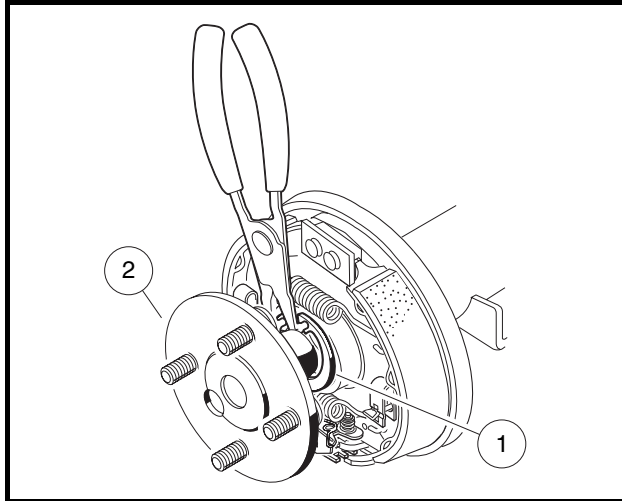
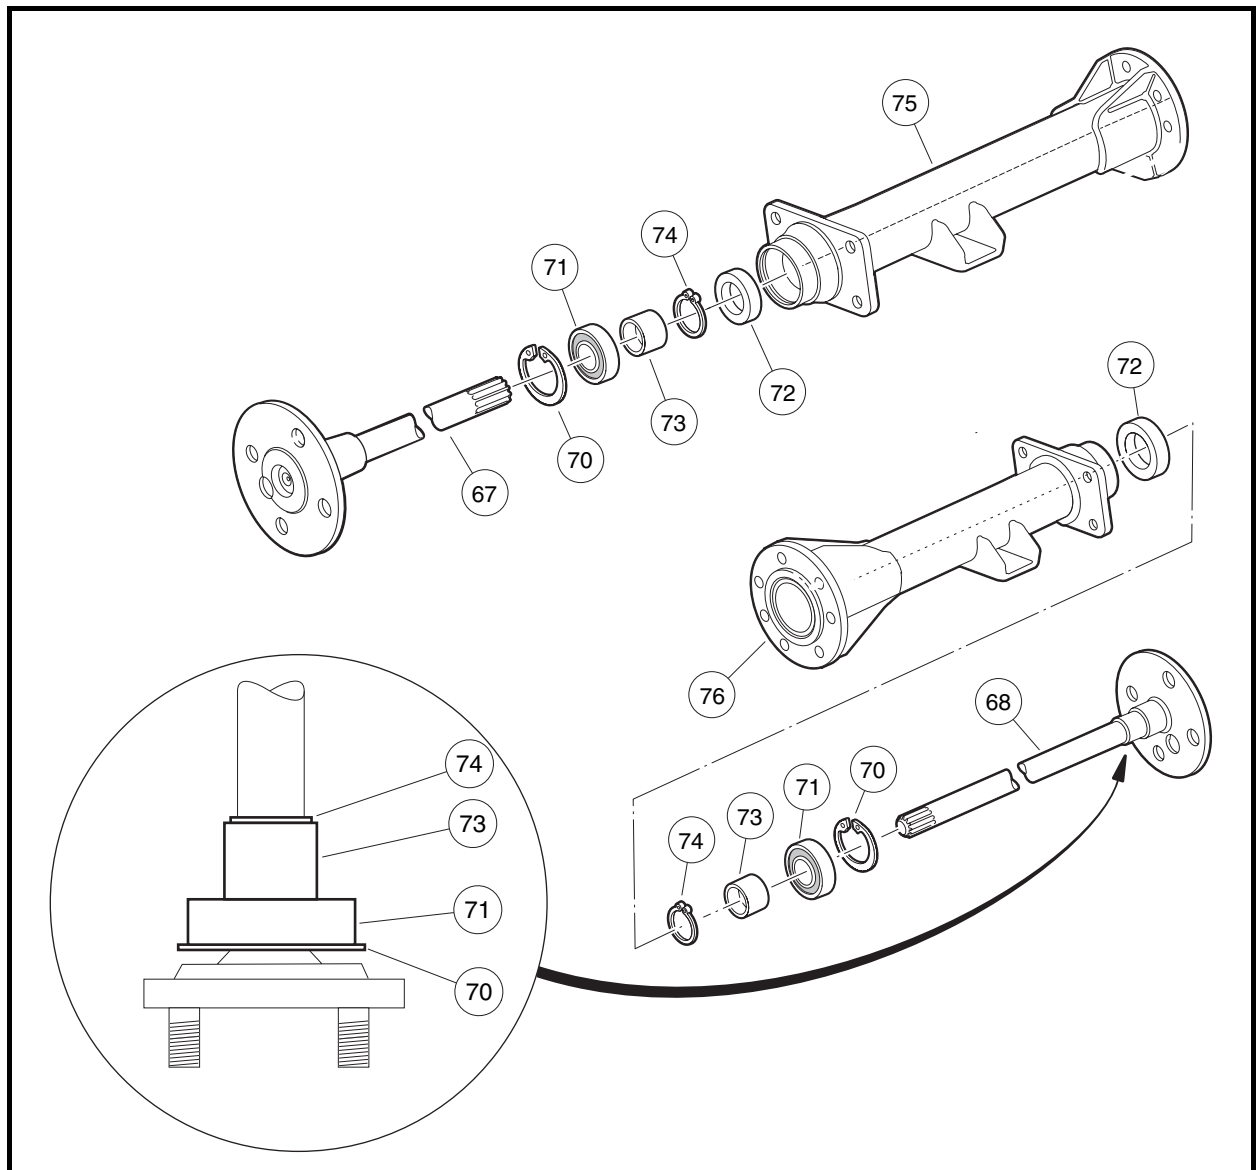
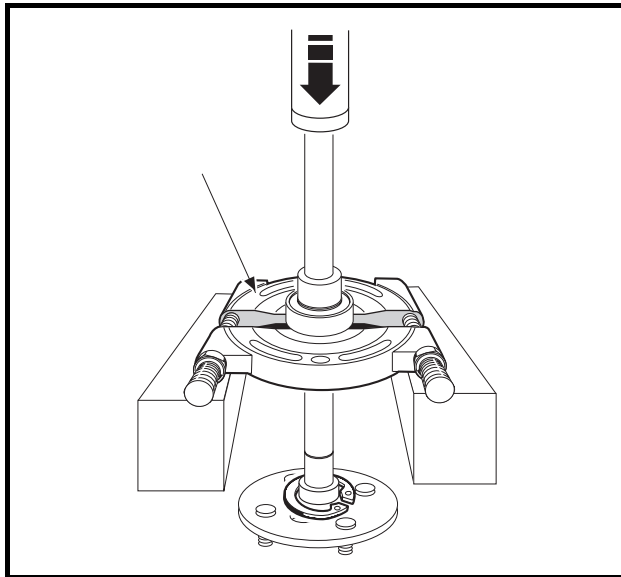
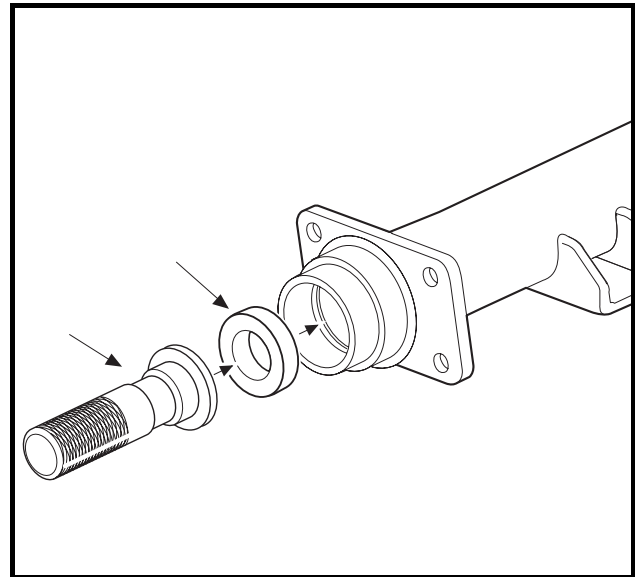

Figure 19-3 Retaining Ring
Figure 19-6 Differential Gear Case and Axle Tubes
Figure 19-7 Press Bearing and Collar From Shaft Using Bearing Puller Wedge Attachment
Figure 19-8 Axle Seal and Seal Tool
6. Use 90° internal snap ring pliers (0.090-in. tip) to remove internal retaining ring (1) from axle tube (**Figure 19-3, Page 19-3**).
7. Carefully pull the axle shaft (2) straight out of the axle tube (**Figure 19-3, Page 19-3**).
9. Inspect the axle shaft assembly to be sure the bearing (71) and collar (73) have not slipped and are still seated against the shoulder on the axle shaft (Figure 19-6, Page 19-4).
1. Use external retaining ring pliers (0.047-inch tip) to remove the retaining ring (74). Place a bearing puller wedge attachment (CCI P/N 1012812) on the axle shaft between the wheel mounting flange and the bearing (Figure 19-6, Page 19-4). See also Figure 19-7, Page 19-6. See following CAUTION.
2. Press the bearing (71) and collar (73) off together (Figure 19-6, Page 19-4). See also Figure 19-7, Page 19-6. See following NOTE.
Do not remove the large axle retaining ring (70) from the axle (Figure 19-6, Page 19-4). Since the inner diameter of the retaining ring (70) is smaller than the outer diameter of the bearing (71), the ring must be in place on the axle before a new bearing and collar are pressed on.
1. Ensure that the retaining ring (70) is loosely placed on the axle shaft. **See preceding NOTE.**
2. Install a new axle bearing (71) on axle (67 or 68). Push bearing onto axle until bearing is flush against axle shoulder (**Figure 19-6, Page 19-4**).
4. Place a new sealed bearing (71) on shaft (67 or 68) (**Figure 19-6, Page 19-4**).
5. Install collar (73) onto axle shaft. Place axle assembly on bearing puller wedge attachment and press collar onto axle.
7. Use external snap ring pliers (0.047-in. tip) to install collar retaining ring (74) (**Figure 19-6, Page 19-4**).
1. Clean bearing and seal seats in axle tube (75 or 76) (**Figure 19-6, Page 19-4**).
2. Place a new oil seal (72) in axle tube with seal lip facing inside of the axle tube (**Figure 19-6, Page 19-4**). Use an axle seal tool (CCI P/N 1012811) to press it in until it seats firmly in position (**Figure 19-8, Page 19-6**). **See following NOTE.**
4. Install the bearing retaining ring (70) in the axle tube (**Figure 19-6, Page 19-4**). **See also Figure 19-3, Page 19-3.**